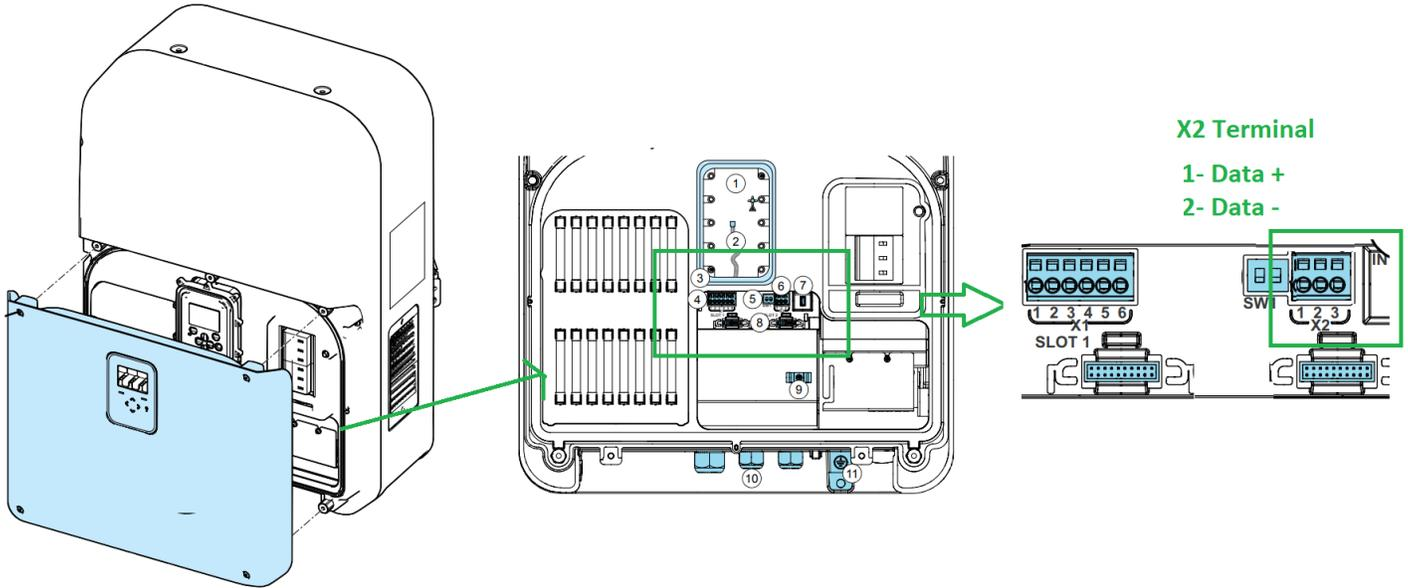

Figure A1 – ABB 33kW inverter Communication Port
The communication terminals (RS485) are located at the bottom of the inverter at X2 Terminal as shown in Figure A1
- 1) Loosen the 4 captive screws and locate communication module as shown in Figure A1.